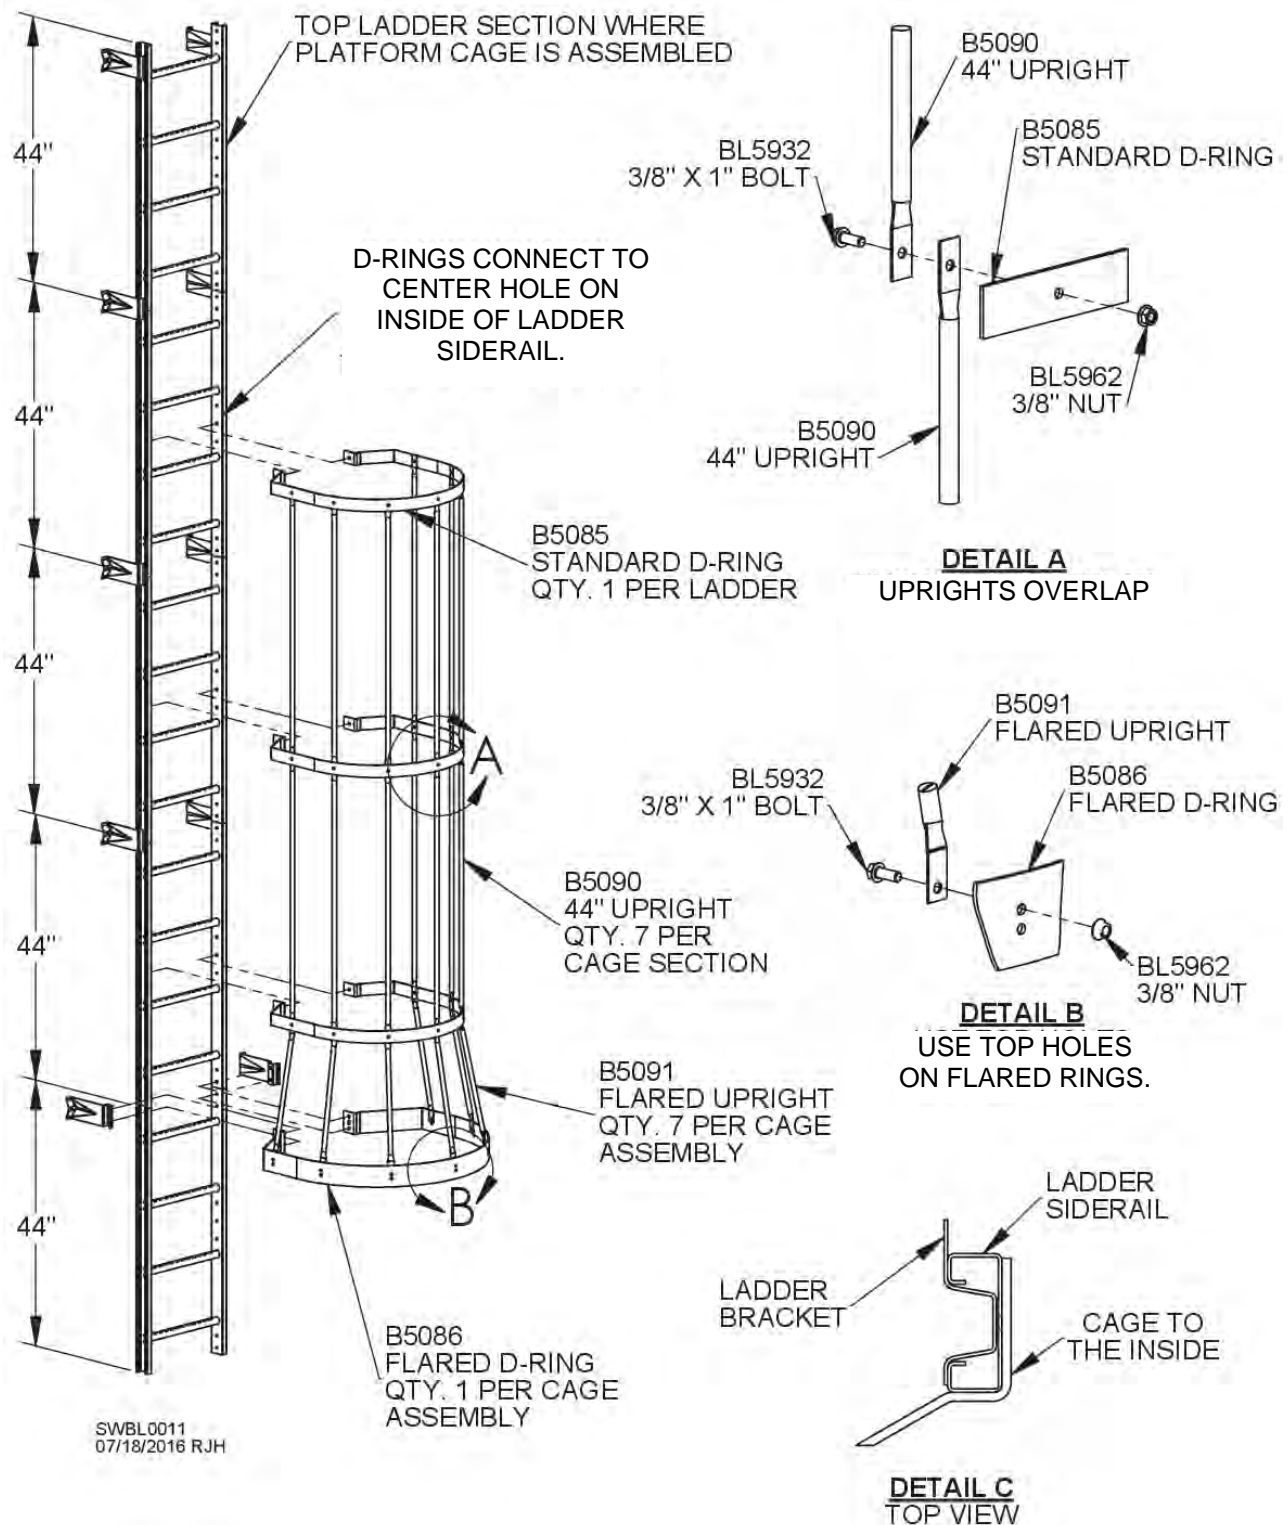

Fig. 9
As bin is built, continue to add appropriate ladder and cage sections. Refer to following pages for specific ladder and cage layouts. Cage sections consist of standard D-rings (B5085) and seven (7) 44" uprights (B5090). Standard D-rings attach to inside of ladder siderails. A flared D-ring is always used at bottom of each cage assembly. Top D-ring must be connected to center of top ladder. This allows bottom flared D-ring to be at proper height above the next surface (concrete or platform). Attach standard D-rings and uprights to ladder sections with 3/8" hardware. See Fig. 9.
See Fig. 9 and related instructions for adding ladder and cage sections.